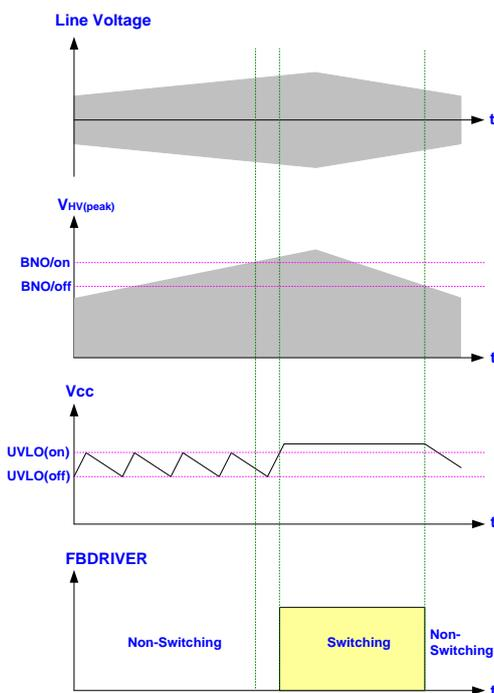

Fig 17.
The LD7791/A/B/C features brown-in / brown-out protection on HV pin. As the built-in comparator detects line voltage, it will turn off the controller to prevent any damages. In case of  $V_{HV} < \text{Brown-out Level}$ , the output driver will be disabled even when VCC already reaches UVLO (ON). It therefore forces VCC hiccup between ULVO (on) and UVLO (OFF). Unless the line voltage is large enough and over Brown-in Level, the output driver will not start switching even if the next ULVO (on) is tripped. A hysteresis is designed to prevent false-triggering and damage to the external components during turn-on and turn-off phase. See Fig 17 for the operation.